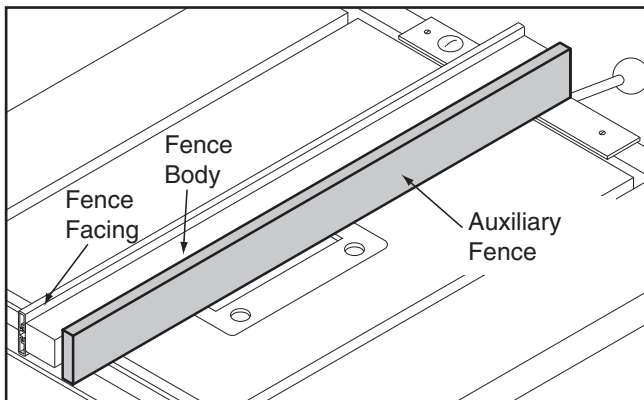

Figure 55. Auxiliary fence.
8. Use the mounting hardware that had previously attached the fence face to attach the auxiliary fence. The end result should be similar to **Figure 55**.